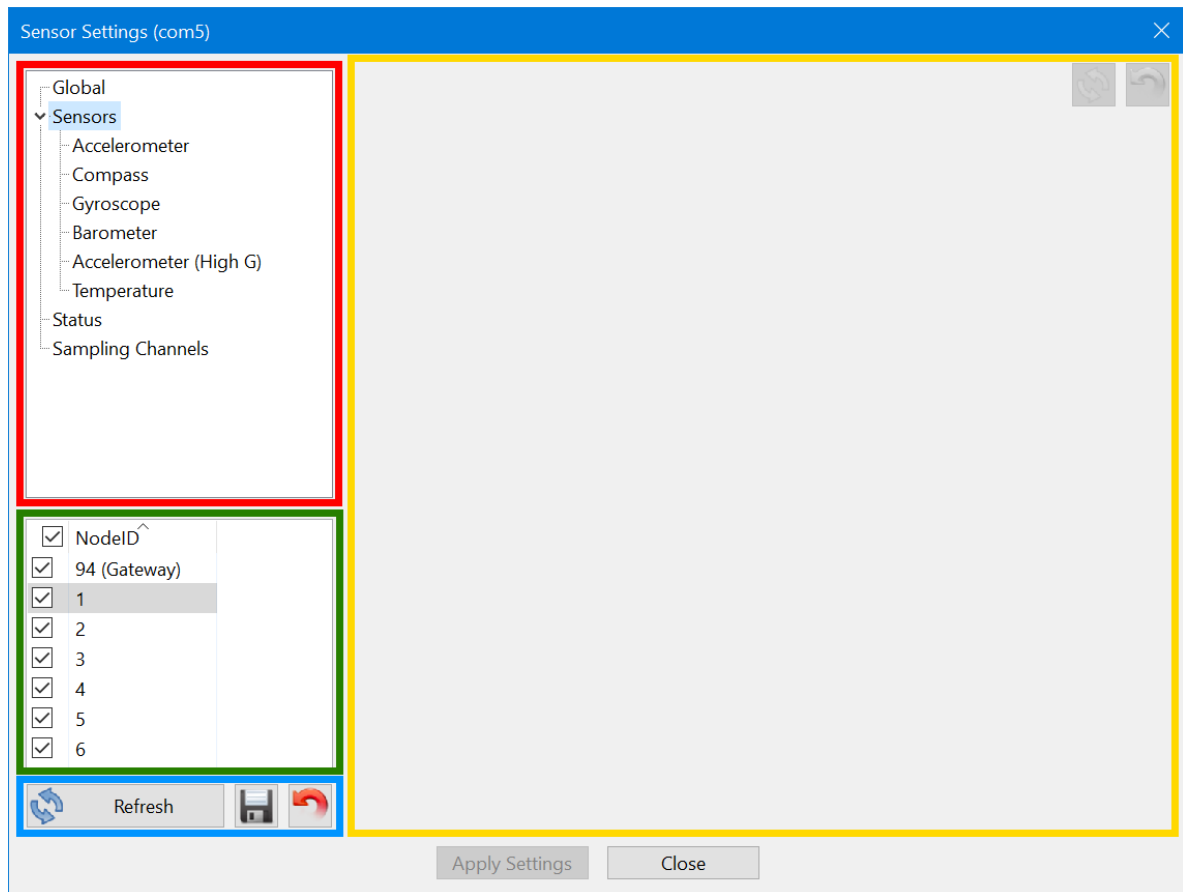

Figure 31: Sensor Settings
Figure 31 shows the *Sensor Settings* window, which is divided in the following areas:
- *The node list area*, marked with **green** in Figure 31, contains the list of devices available via the currently selected connection. When a node is *selected*, its configuration options are shown in the sensor tree. When a node is *checked* by using the checkbox beside it, the actions of the buttons refer to this node. In Figure 31, all nodes are checked, so the configuration is applied to all these nodes after pressing the *Apply Settings* button.
- *The sensor tree*, marked with **red** in Figure 31, shows the available configuration options of the selected nodes in the node list. When choosing an option in the tree, the corresponding configuration settings are shown in the settings panel. The different configuration options in the sensor tree are discussed in the subsequent sections.
- *The buttons*, marked with **blue** in Figure 31, have the following functions:
- *The settings panel*, marked with **yellow** in Figure 31, shows the settings available for the selected configuration option of the selected node in the node list. These settings are discussed in detail in the subsequent sections. When invalid or not recommended settings are used, these settings are marked with a red (invalid) or orange (not recommended) colour. Invalid settings cannot be applied. Error, warning and information messages are shown below the *Apply Settings* and *Close* buttons. The settings panel also contains a **Refresh** and **Restore** button at the top-left corner. These buttons can be used to refresh or restore the *selected* configuration of the *selected* node.